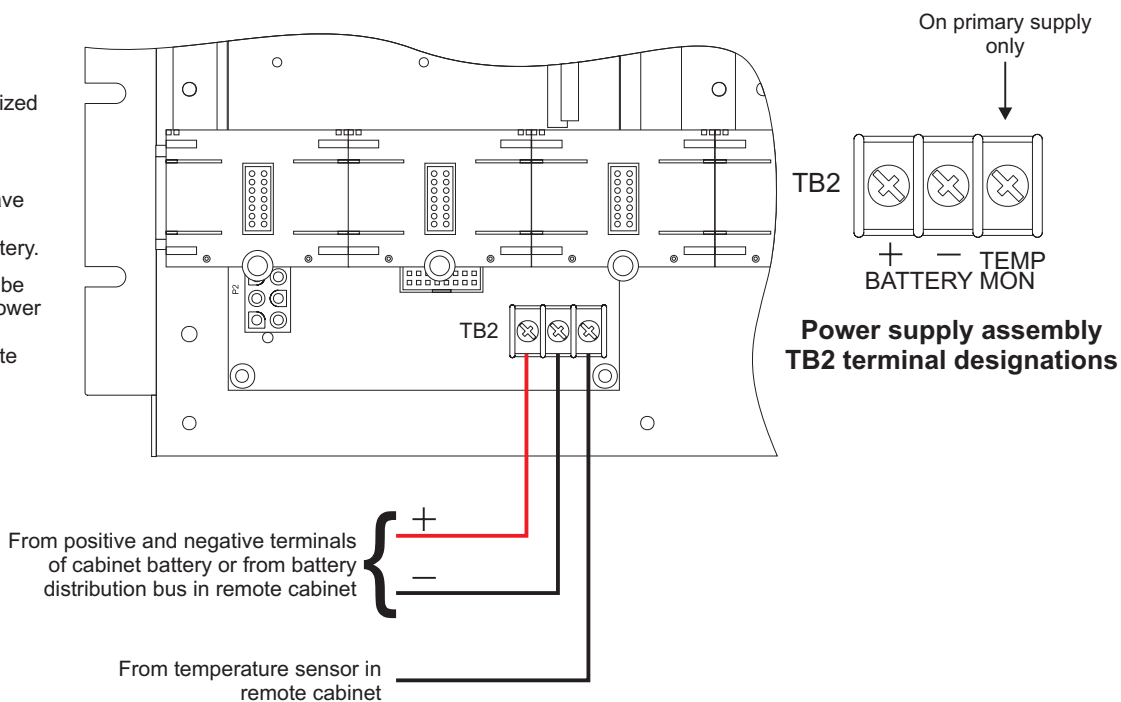

**Figure-7: Mains ac wire connections**
1. Ensure that the mains ac circuit is deenergized. Connect the mains ac conductors to TB1 on the power distribution assembly. Refer to Figure-7 on page 5.